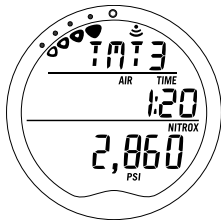

Fig. 113 - Switch from GAS 2 to GAS 3 was made
- When the switch is made, the Main Display will then represent GAS 3. Alternate Display #1 will then display the alpha graphic TMT3 and the Pressure of Tank 3 (Fig. 113). Air Time Remaining is then calculated based on Tank 3.